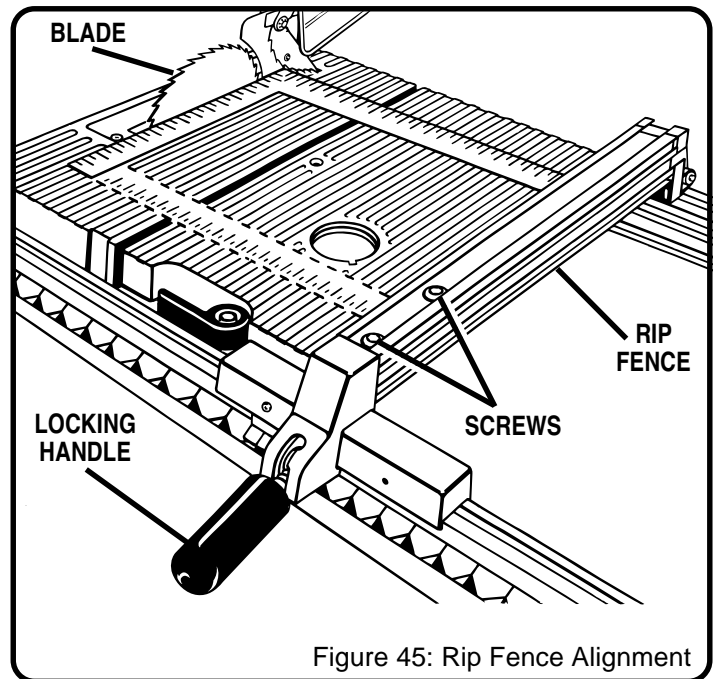

Figure 45: Rip Fence Alignment
4. If the two dimensions are not the same, loosen the two screws on the fence and align it. *See Figure 45.*